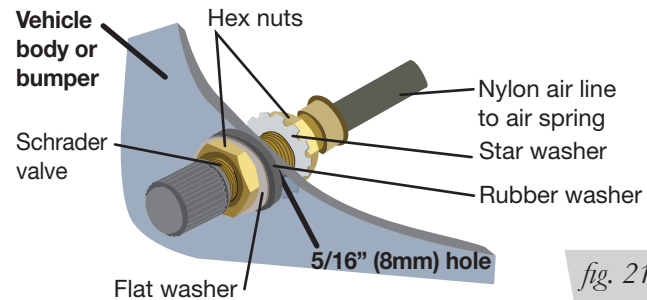

fig. 21
3. Install the Schrader valve in the chosen location (Fig. 21).